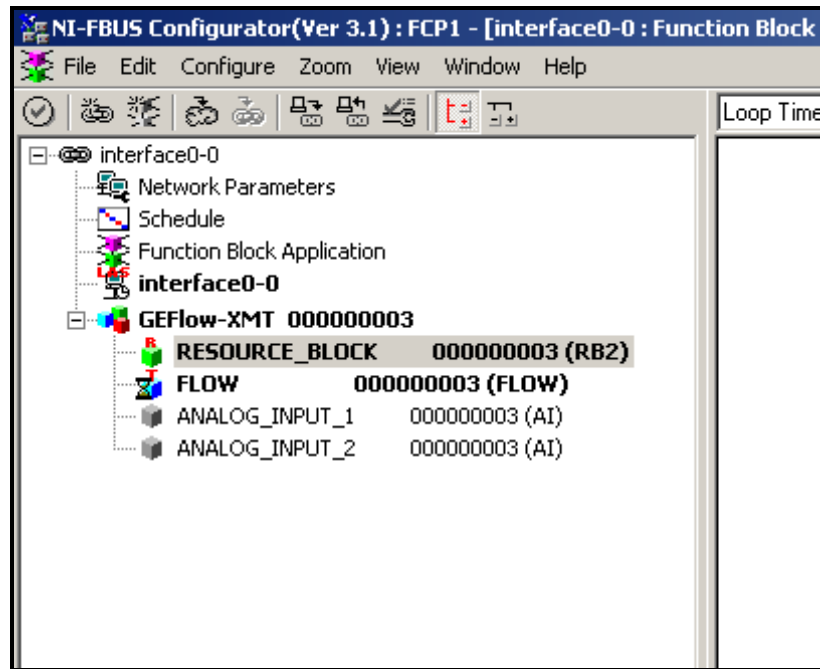

Figure 47: Configuration Utility Setup Example
Figure 47 below shows the Configuration Utility with a flowmeter on the network (GE Flow-XMT).
1. Double click on the AI block for which you wish to set the units (ANALOG_INPUT_1 or ANALOG_INPUT_2 in the tree under GEFLOW-XMT; see Figure 47 on page 54).
1. Double click on the FLOW transducer block (in the tree under GEFLOW-XMT; see Figure 47 on page 54).